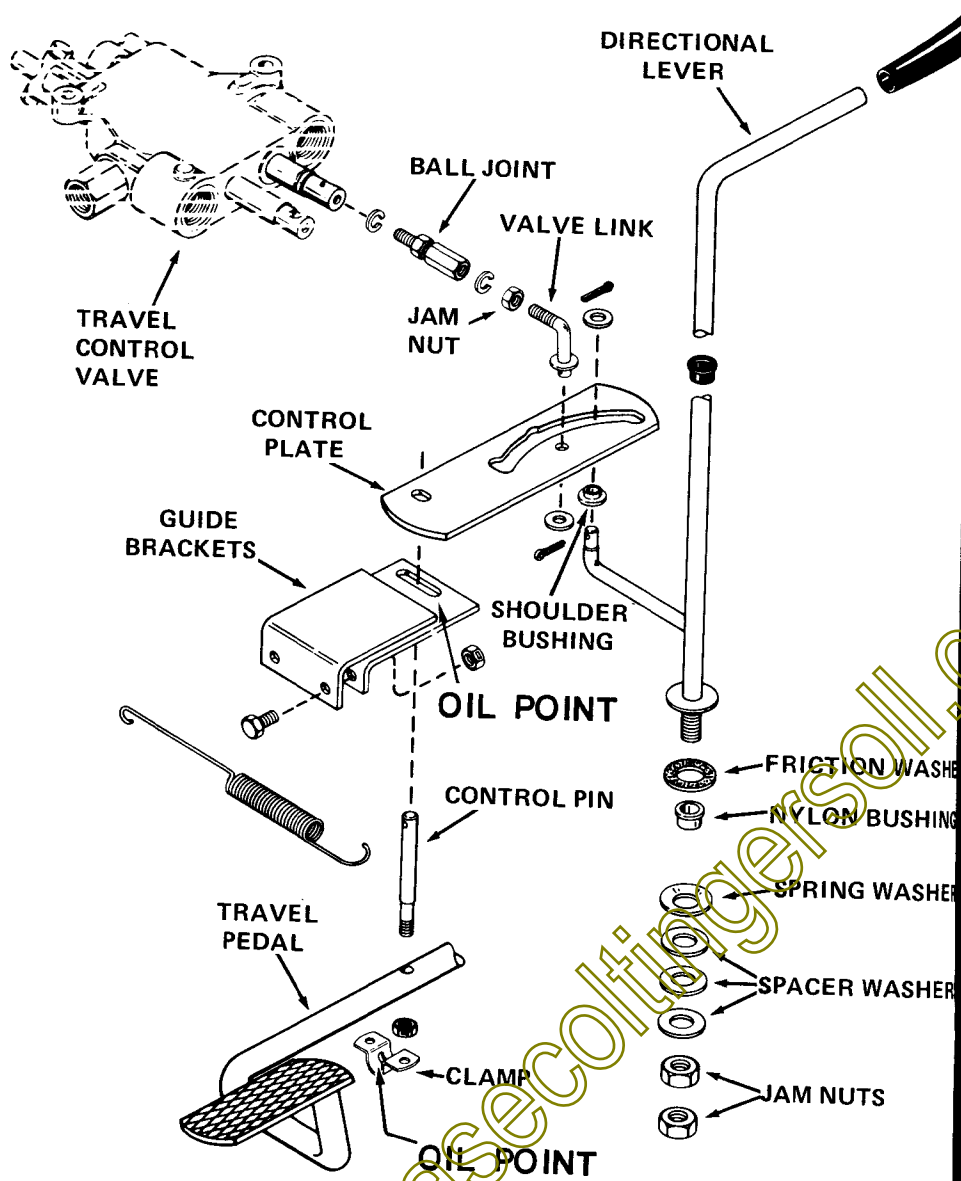

FIGURE 27
**DIRECTIONAL LEVER**--The directional lever should remain in the position it is placed when the travel pedal is depressed. If the lever tends to move back toward "neutral" when engaging the travel pedal, the friction washer, Figure 27, may be worn or additional tension may be required. If the lever does not stay in the full forward or reverse position, full speed and power will not be available in that direction.